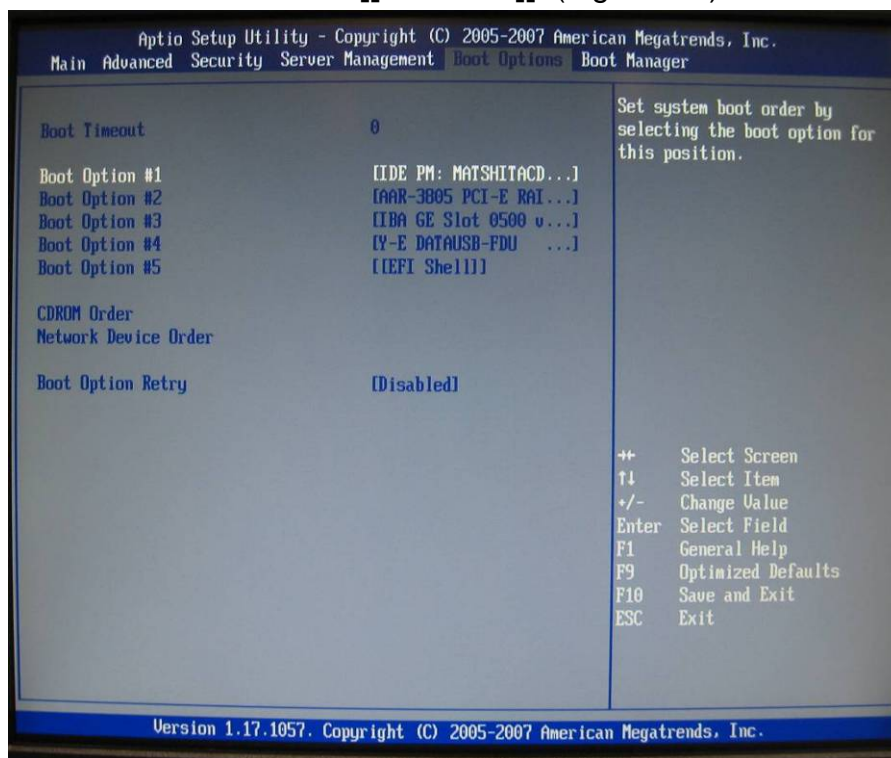

Figure 5-1 Confirm Boot order
2. With the hard drives set in RAID, enter BIOS and confirm the boot order: **[IDE PM: MATSHITACD...], [AAR-3805 PCI-E RAI...], [IBA GE Slot 0500 v...], [Y-E DATAUSB-FDU ...], [[EFI Shell]]**. (Figure 5.1)